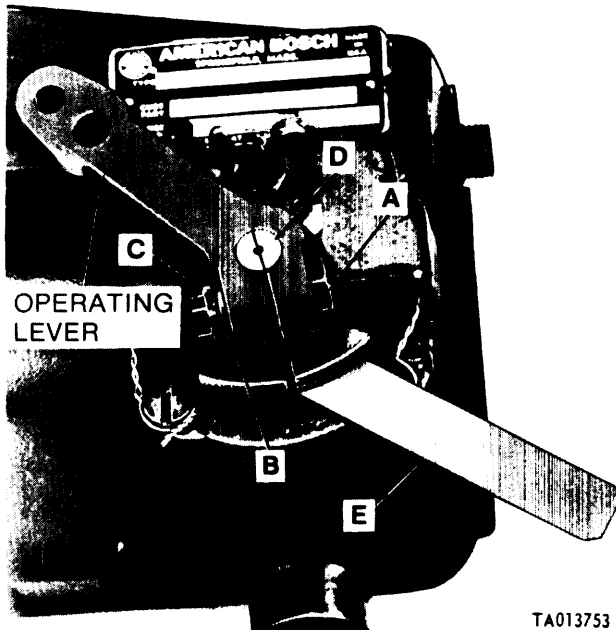

Figure 3-85. Installing operating lever using a feeler gage (code A pumps).
(19) Refer to (16) above and figure 3-83 and install idle and high speed adjusting screws. Refer to figure 3-85. The operating lever and stop lever is one piece on this pump. Install screw (A), lockwasher (B) and nut (C). Install operating lever assembly in up position on operating shaft (D) with the split in lever aligned with scribe mark on end of operating shaft